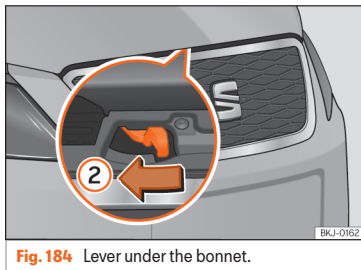

Fig. 184 Lever under the bonnet.
- To lift the bonnet, press towards the left on the lever located under the bonnet, in the centre »» Fig. 184 ②. The arrester hooks are released.